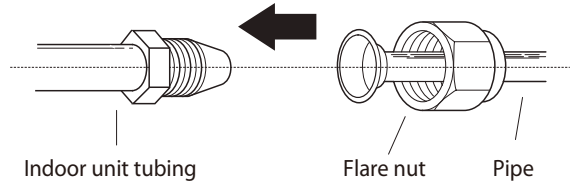

Fig. 2.7
1. Align the center of the two pipes that you will connect. See Fig. 2.7 .